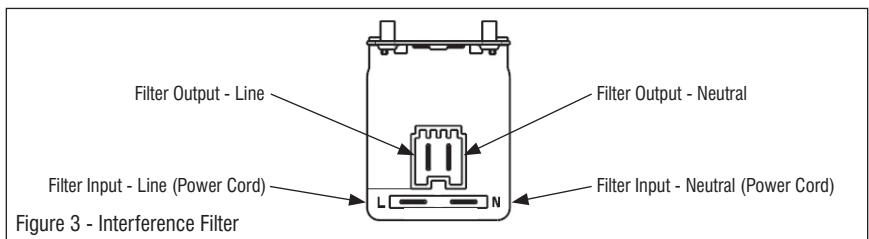

Figure 3 - Interference Filter
7. With a voltmeter set to **AC**, check for line voltage at the input of the interference filter. See Figure 3.
8. With a voltmeter set to **AC**, check for line voltage at the output of the interference filter. See Figure 3.